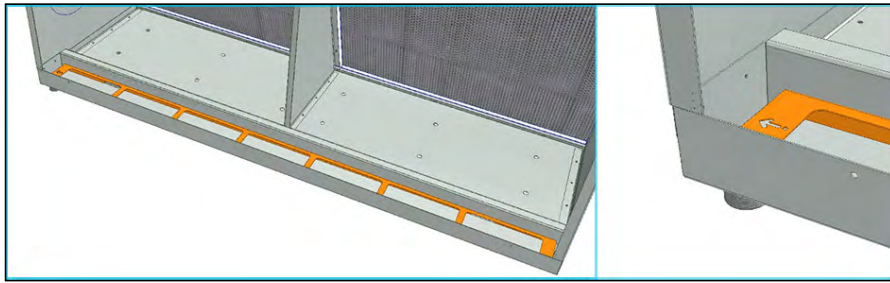

Figure 35. Water Collection Gutters as seen with Pre-Cooler Pads Removed (TSDC2 and TSDF2 Only)
- **TSDC2 and TSDF2 Only:** If necessary, the Pre-Cooler Pad supports located in the water collection gutters can be removed by lifting the pieces out of the gutters. Note the orientation of the arrows toward the sump for re-installation of the supports. See Figure 35 for more detail.